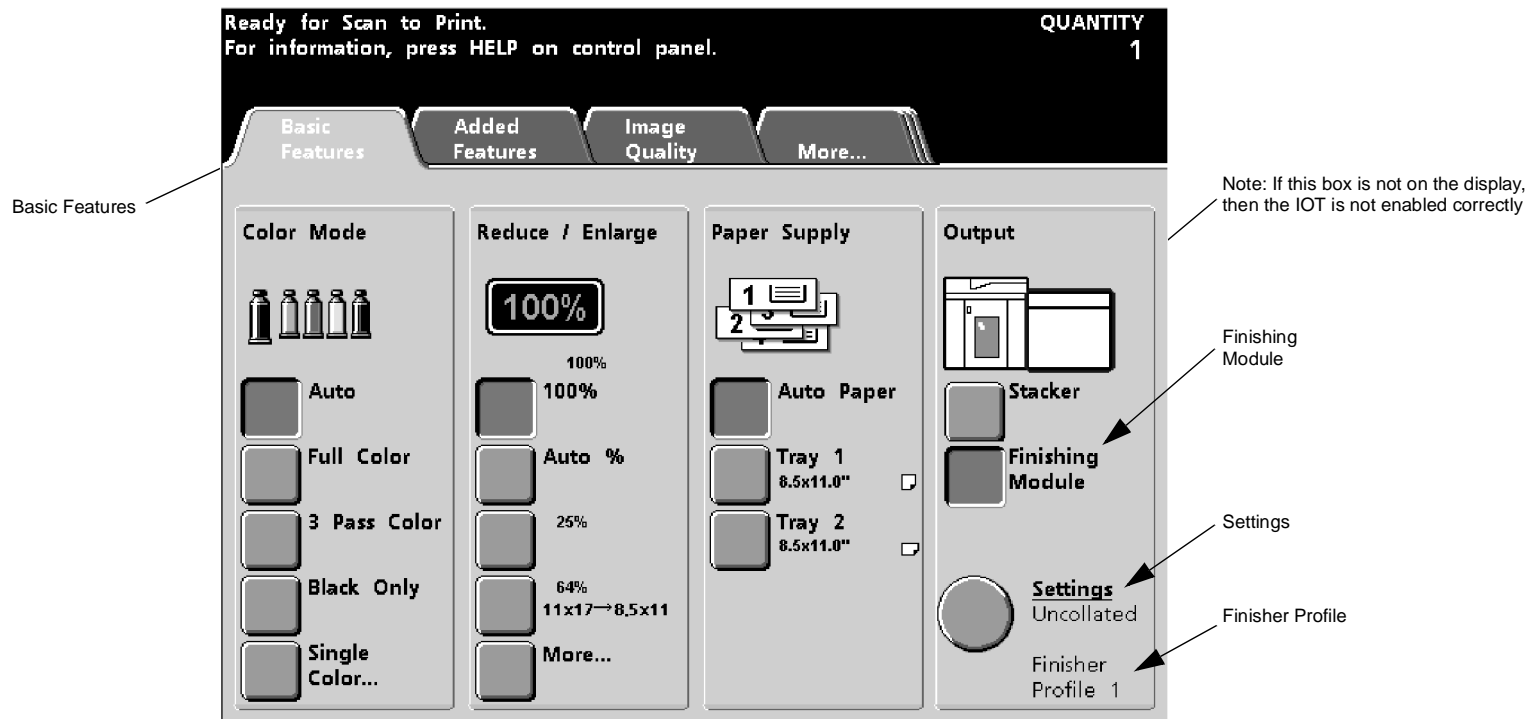

Figure 6-49 The Basic Features Tab
2. Select the **Basic Features Tab**, as shown in Figure 6-49.
3. Click the **Finishing Module** button and the selected **Finisher Profile** will be displayed in the bottom right corner of the screen, as shown in Figure 6-49.
4. To Review or change the **Finisher Profile** or other **Finishing Features** press the **Settings** button, as shown in Figure 6-49.